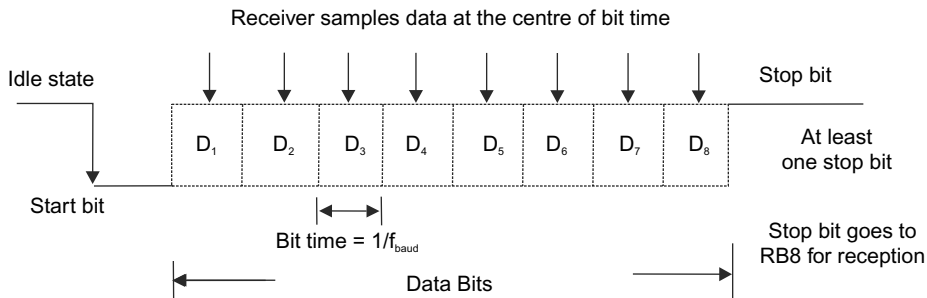

Fig. 13.47 Data transmission/receive in mode 1
When SM0 and SM1 are set to 01, mode 1 operation is performed. In this mode, 10 bits are transmitted through TxD pin or received through RxD pin. These 10 bits consists of one start bit (0), 8 data bits (LSB first) and a stop bit (1) as shown in Fig. 13.47. The transmit interrupt flag TI is set once after sending 10 bits. Each bit interval is the inverse of the baud rate frequency and each bit must be maintained high or low over this interval. After receiving, the stop bit goes to RB8 in SCON register. The baud rate is variable and it is computed by the timer 1 overflow rate. The baud rate can be expressed as